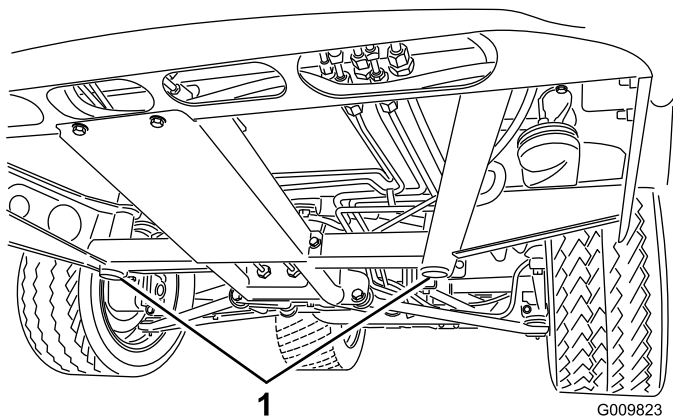
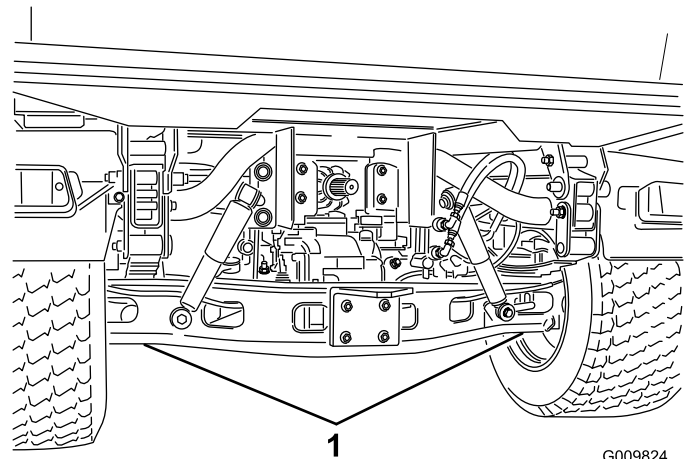

Figure 30
Figure 31
- The jacking point at the front of the vehicle is under the front center frame support (Figure 30) and at the rear it is under the axle (Figure 31).